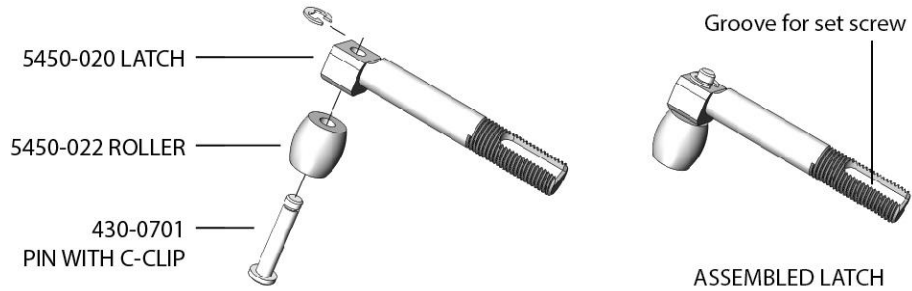

Figure 1
4. If not already assembled, assemble the latch as shown in figure 1. Remove the c-clip from the pin, place the pin through the roller then through the latch, then install the c-clip. Note that the roller must be installed on the correct side of the latch, as shown.